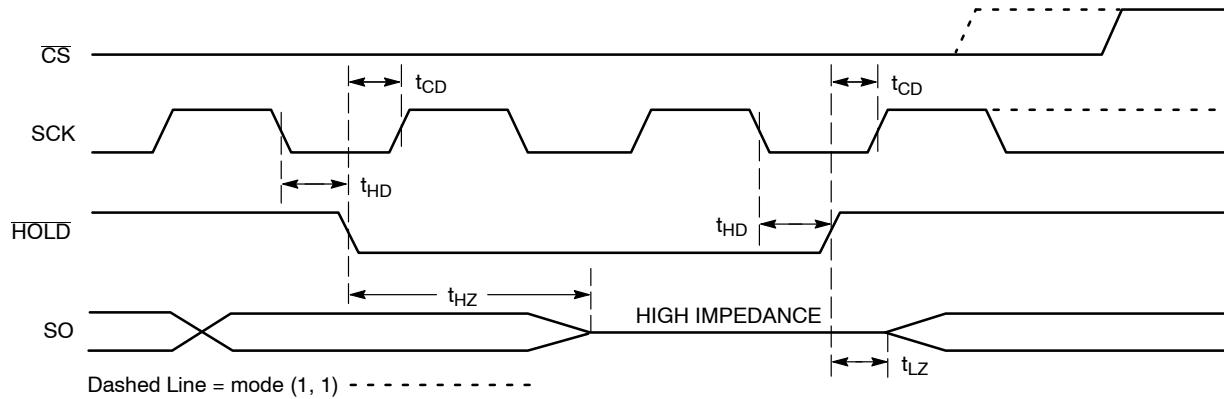

Figure 11. HOLD Timing
The HOLD input can be used to pause communication between host and NV25010/20/40. To pause, HOLD must be taken low while SCK is low (Figure 11). During the hold condition the device must remain selected (CS low). During the pause, the data output pin (SO) is tri-stated (high impedance) and SI transitions are ignored. To resume communication, HOLD must be taken high while SCK is low.